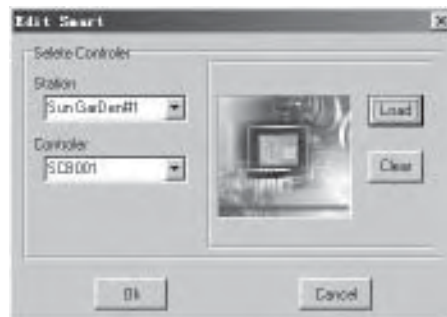

Fig. 4-32 Interface of Inserting Controllers
2. Write down the picture of the corresponding FAB controller as in Fig. 4-32 and the click the \pm Confirm button. Thus the inserting FAB controller is completed.